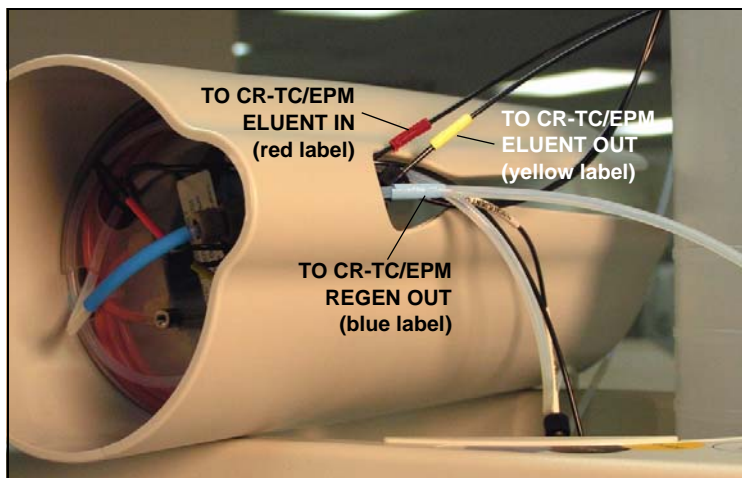

Figure 5-75. TO CR-TC/EPM Lines Outside of Holder
4. Thread the three lines from the EPM (red, yellow, and blue labels) through the opening on the side of the new holder (see Figure 5-75).